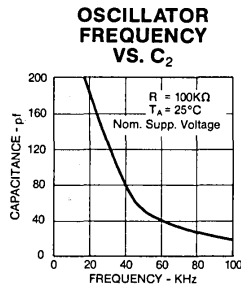

Fig. 6
** R2 (100K Ω), C2 (50pf) provide 50KHz clock frequency (see figure 6)